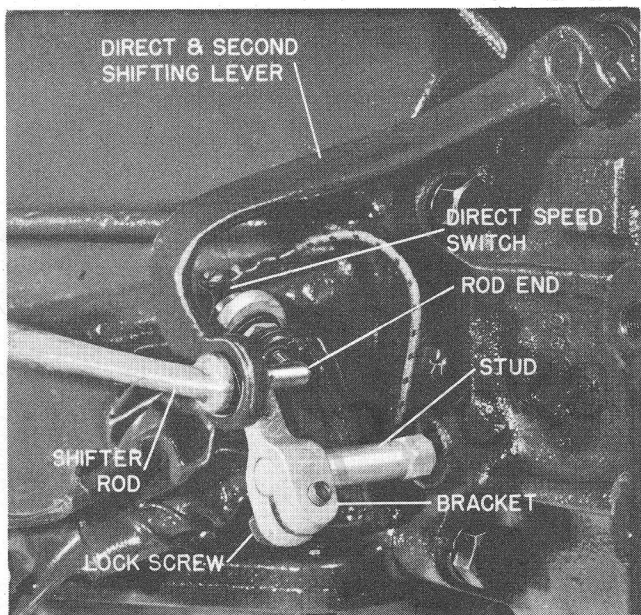

Figure 14—The Direct Speed Switch Is Adjusted by Rotating the Bracket on the Stud
b. Move the gearshift lever toward the neutral position. The light should go on when the linkage slack has been taken up, but before the transmission shifter fork moves out of its dent. If the light does not go on in this position, adjust the switch bracket on the transmission (Fig. 14) away from the shifter lever rod end until the light goes on. If the light burns continually, adjust the switch bracket nearer to the lever rod end so that the light will go out in the high gear position and will go on just as the linkage lost motion is taken up (Fig. 14).